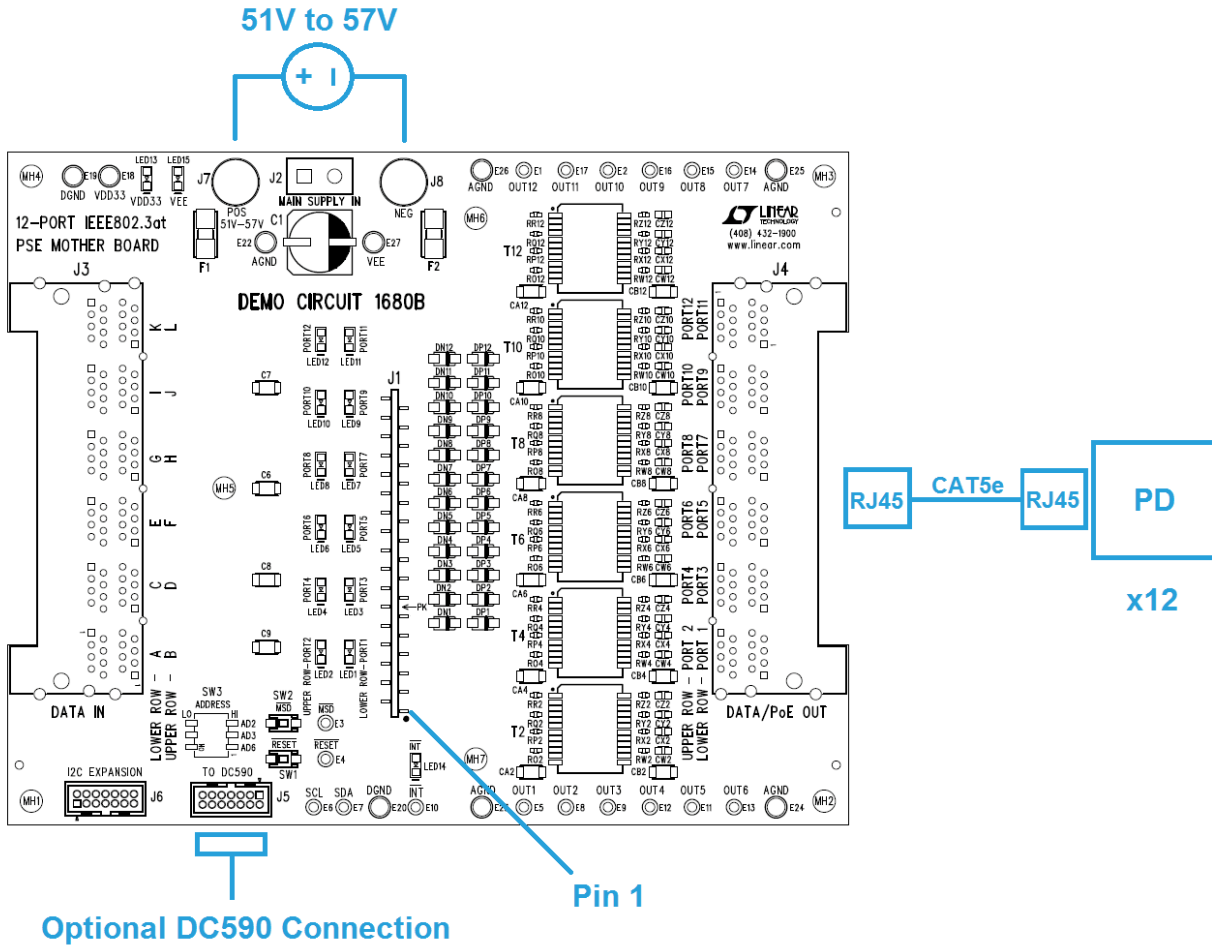
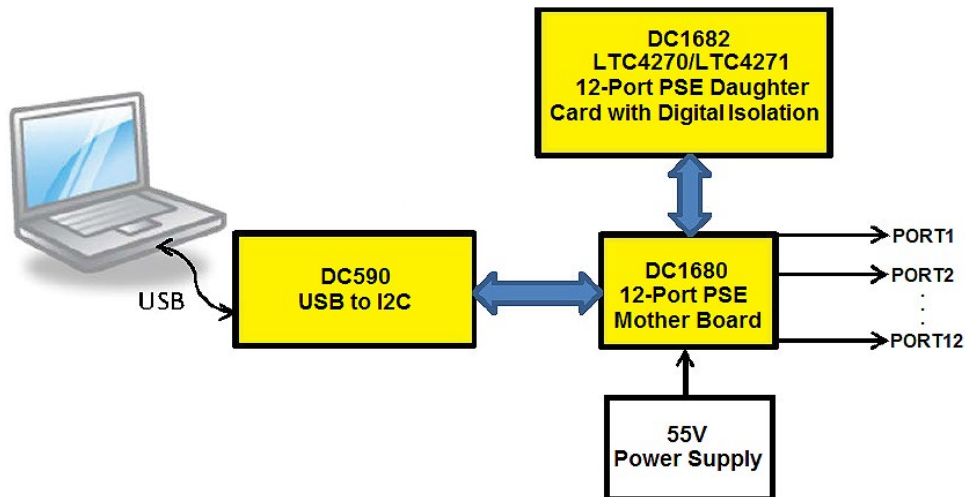

Figure 3. DC1840 Basic Setup
Figure 4. System Setup with the DC590, DC1680, DC1682 and 55V Power Supply
4. On the DC1680, connect a supply with the positive rail to POS and negative rail to NEG (Figure 3). Use a power supply capable of sourcing the maximum load expected ($12 \text{ ports} \times 850\text{mA} \geq 10.2\text{A}$). Ramp the supply up to 51V to 57V.
5. Connect up to 12 PDs to the DC1680, J4 (Figure 3).
6. The DC590 is optionally connected to the DC1680 connector J5 with a 14-pin ribbon cable (Figure 3). A GUI for the LTC4270/LTC4271 is brought up by QuikEval for I²C interfacing from a PC (Figure 4).
Connect a power supply for V_{EE} with the positive rail to POS and negative rail to NEG as shown in Figure 3 of the Quick Start Procedure. Set the voltage within the range in Table 1 depending on whether the application is a Type 1 or Type 2. Choose a power supply rating and set the current limit high enough to provide power for the maximum number of PDs connected and to meet each PD power requirements.
PDs are connected using an Ethernet cable to any of the 12 ports at the 2×6, RJ45 connector J4 on the DC1680B (Figure 3). Test points for port outputs OUT1 through OUT12 are provided.